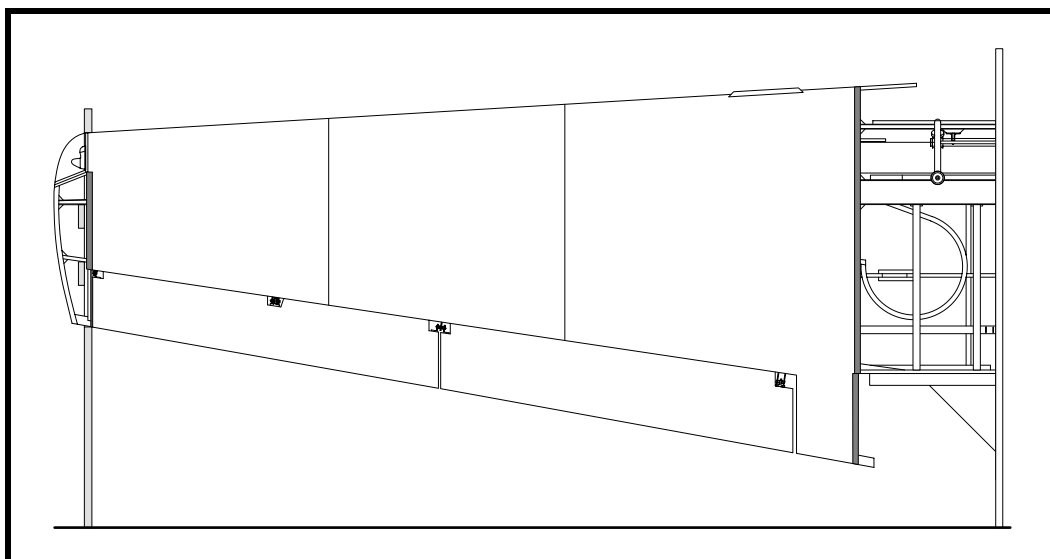

Figure 48
- ❑ On the forward and aft faces of fuselage frame No. 5, install 15x15 spruce blocks as shown in Figure 48. These blocks will support the upper wing skin where it has to be cut out for the fuselage frame. Before installing the spruce blocks, cut them to an angle to match that of the upper wing skin in the center.